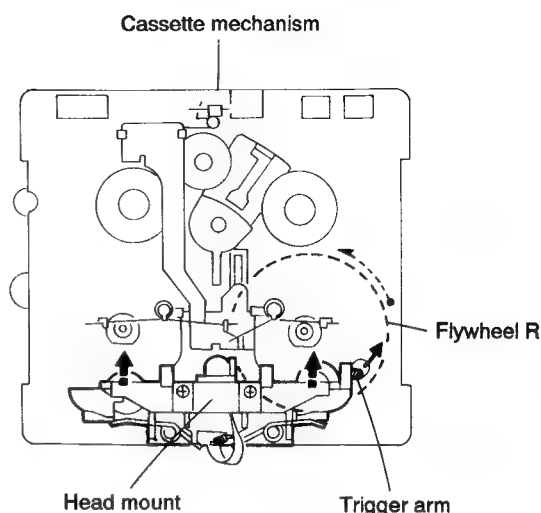

Fig. 5-19
1. While shifting the trigger arms seen on the right side of the head mount in the arrow direction, turn the flywheel R in counterclockwise direction until the head mount has gone out with a click (See Fig. 5-19).